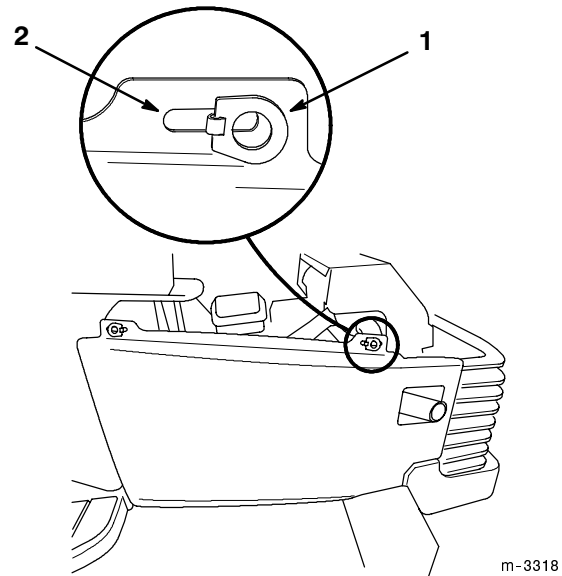

Figure 3
- A. Lift up and twist each of the two side panel latches 90°, or until they line up with the open slot (Fig. 3).